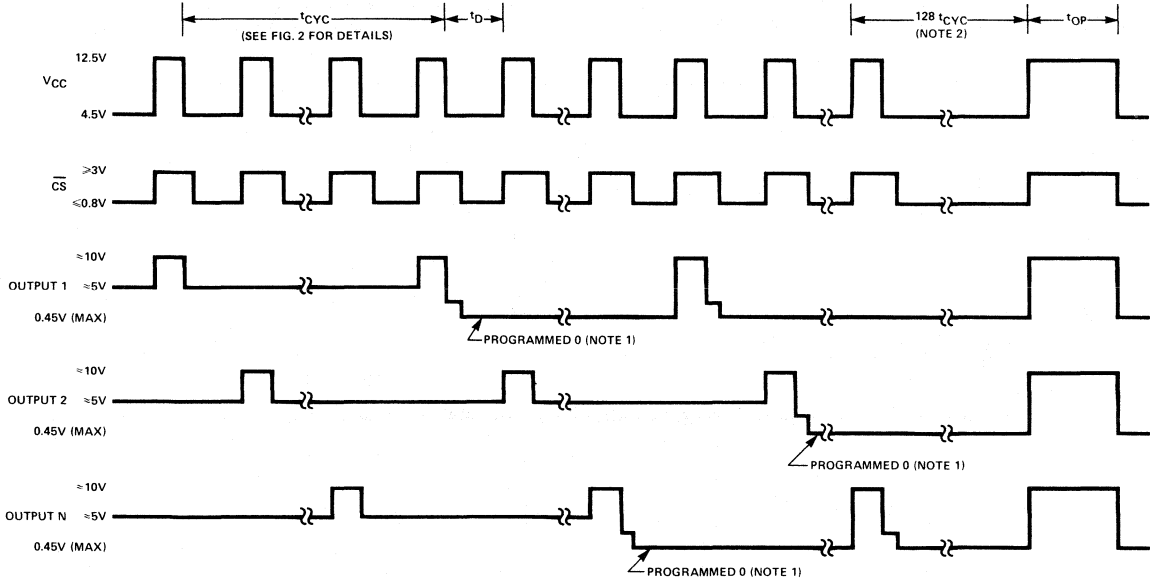

Figure 1. Programming Cycles.
The programming specifications are given in Table V and the programming waveforms are shown in Figure 1. The programming procedure (described with nominal specifications) is as follows:
1. A 5 mA current must be forced into the output to be programmed by a current source. The current source must be clamped to V_{CC} by a silicon diode. All the other outputs must be floating until it is their turn for programming. The V_{CC} power supply and the chip select (\overline{CS}) input is pulsed as shown in Figures 1 and 2. The width of V_{CC} is linearly increased from 0.2 μs to 8 μs according to the ramp time shown in Figure 3. The total ramp time for a group of four outputs is 180 ms and 360 ms for a group of eight outputs.
2. All outputs must be continuously monitored for programming verification. This verification must occur after V_{CC} has been at 4.5V for 90% of t_D and prior to V_{CC} rising to 12.5V. The program/verification cycles must still be applied (with the pulse width still linearly increasing to a maximum of 8 μs) even though the output has been sensed as being programmed. An additional 128 verifications (i.e., 128 program/verify cycles) on each output must be obtained to insure a correctly programmed output. This additional 128 verification is a minimum number and must occur *after* all the bits of the word are sensed as being programmed. Please refer to Figure 1 for the timing waveforms.